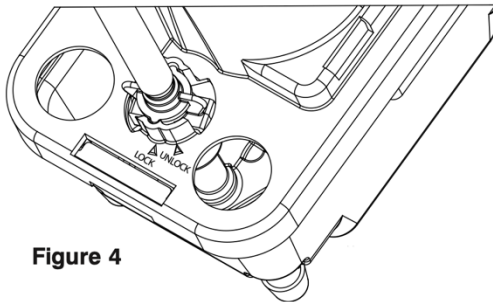

Figure 4
4. Check to ensure that the valve is securely locked into position (Figure 4).